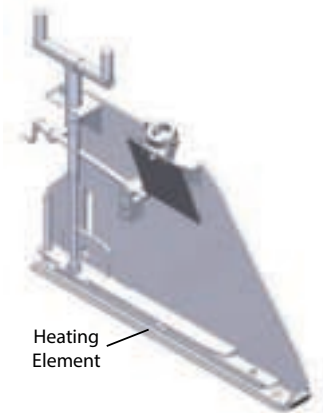

Figure 4-62. Heated Endgate
4. When both are installed, set wearplates flat with the main extension using the vertical lift adjusters and AOA adjuster. **(Figure 4-62)**